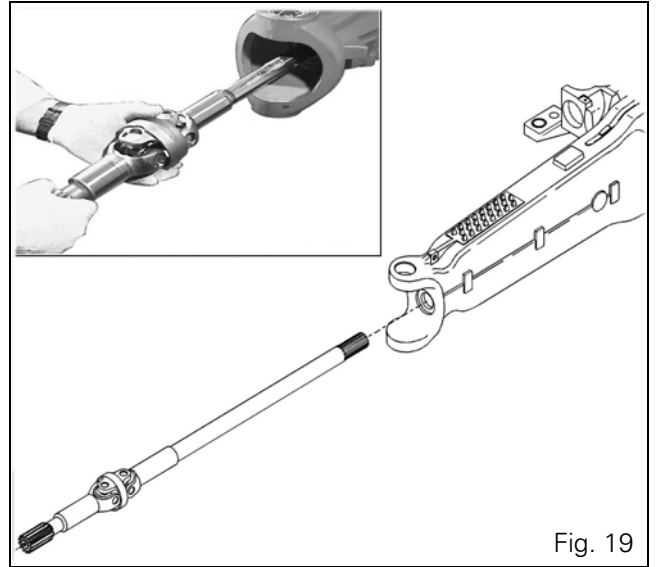

Fig. 19
19. Separate the universal joint shaft from the axle beam (Fig. 19).